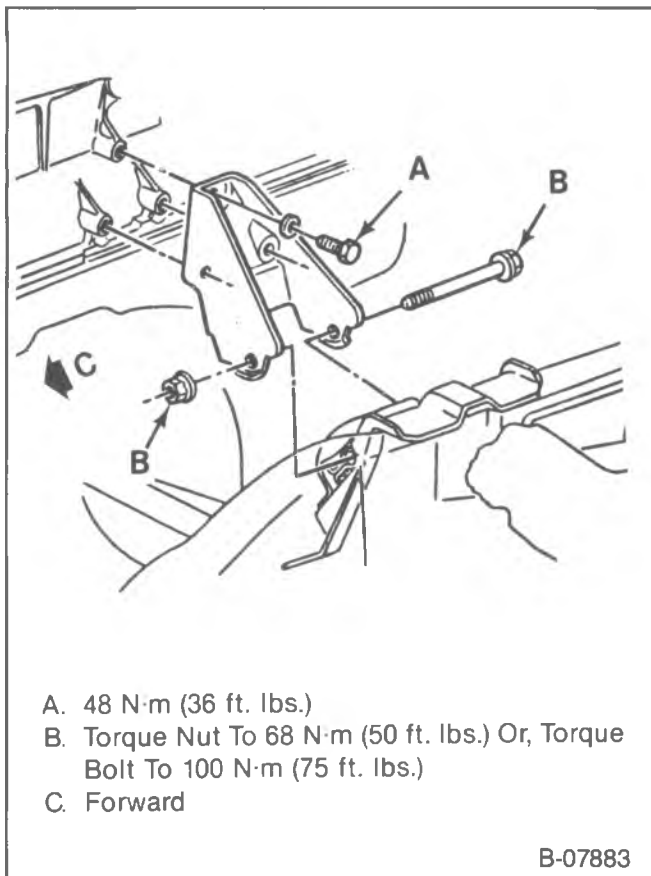

Figure 41—Front Engine Mounting Brackets
↔ Remove or Disconnect (Figures 41 and 42)
↔ Install or Connect (Figures 41 and 42)
- Fasteners to specifications. Refer to figures 41 and 42.
- Through-bolt or nut to specifications. Refer to figure 41.
**Install or Connect (Figure 41)**
- Fasteners to specifications. Refer to figure 41.